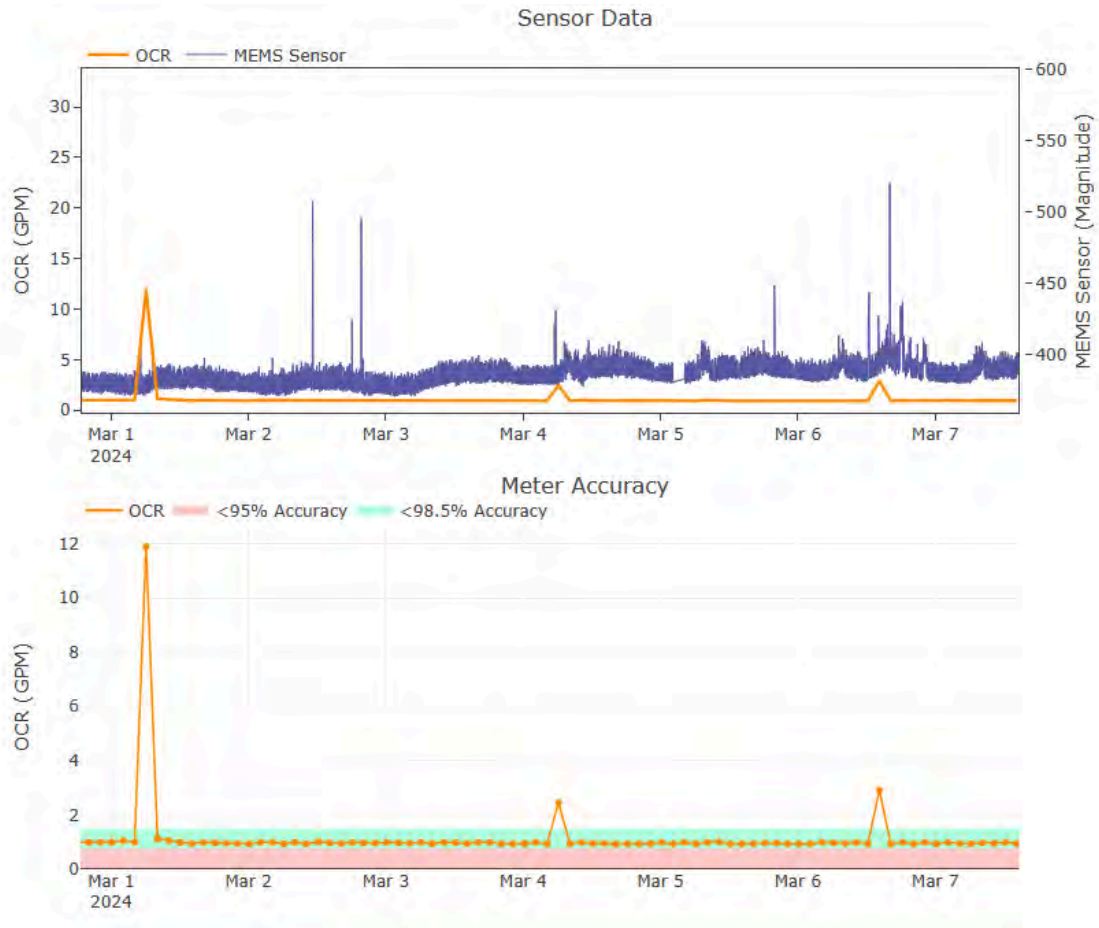

Figure 50 - Post repair 'Potential customer side leak' error condition
- This compound meter (Figure 50), was previously identified as having an ‘oversized’ meter error as well as a ‘potential customer side leak’. Fullerton staff have completely replaced the Sensus W Turbo 4” meter with a new Sensus Omni C2 4” meter, and Olea’s MHA technology has identified this new meter is no longer oversized, but the potential customer side leak remains (Figure 51).